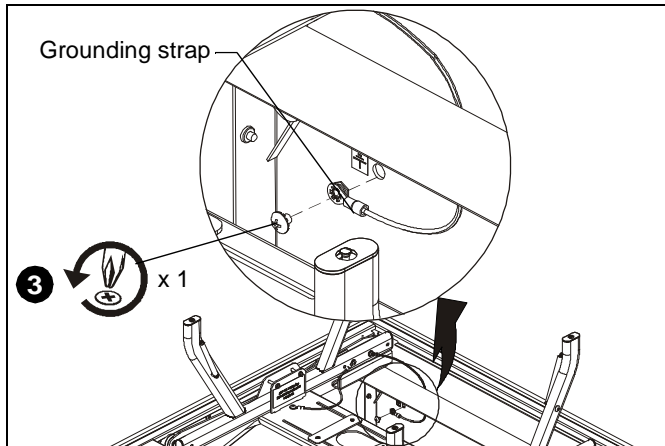

Figure 1
3. Remove **and save** Phillips head screw and disconnect the grounding strap leading from inside front of SL220 to projector cradle. (See Figure 1)